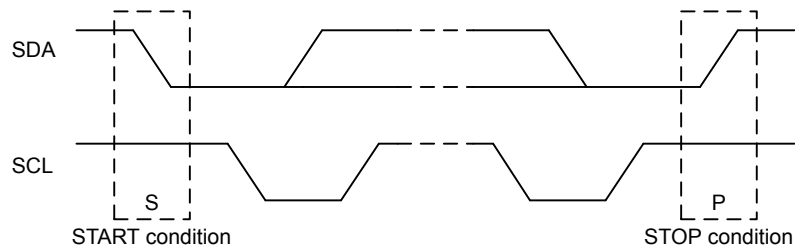

Figure 17.4. I²C START and STOP Conditions
START and STOP conditions are used to initiate and stop transactions on the I²C-bus. All transactions on the bus begin with a START condition (S) and end with a STOP condition (P). As shown in Figure 17.4 I²C START and STOP Conditions on page 503, a START condition is generated by pulling the SDA line low while SCL is high, and a STOP condition is generated by pulling the SDA line high while SCL is high.